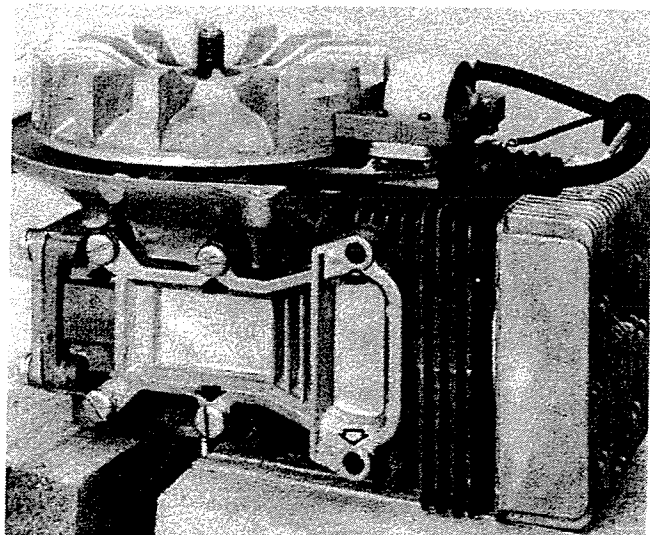

Figure 6. Removing Transfer Covers.
5. Remove both transfer covers by removing four (4) remaining screws (of six) that hold each cover to engine. Figure 6.